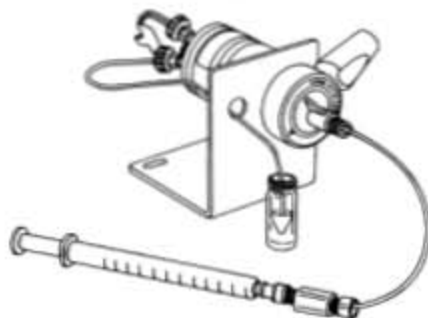

Figure 6: Loading By Suction Using the Suction Needle Adapter.
- Insert an empty syringe into the needle port and suck up sample into the loop. Alternatively, use the Suction Needle Adapter (P/N 9125-076, not supplied). Use of this needle adapter is shown in Fig. 6.